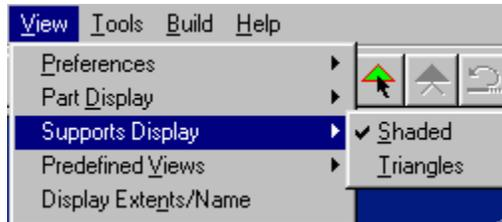

Figure 141. View Pull-down Menu (Supports Display)
2. Click the desired option from the pop-up menu to the right as shown in Figure 141.